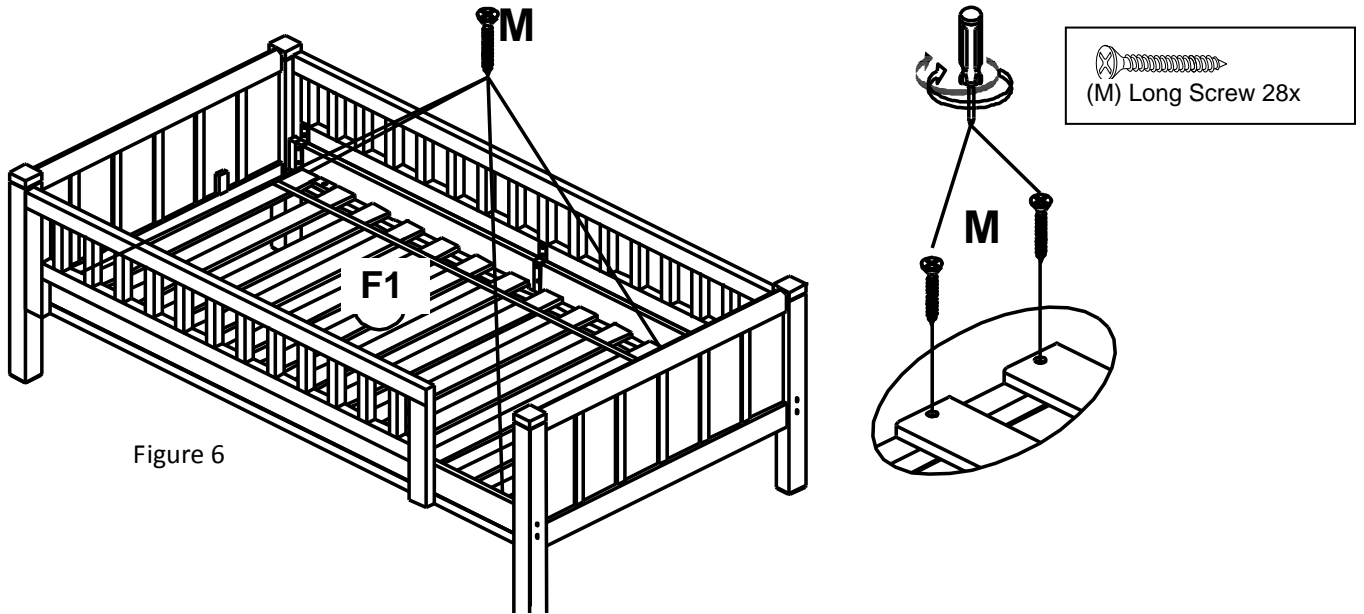

Figure 6
- Place the Slat Roll Twin (F1) on the assembled upper bunk and use (28) Long Wood Screws (M) to fasten the Slat Roll to Side Rails of the upper bunk, (Fig. 6).